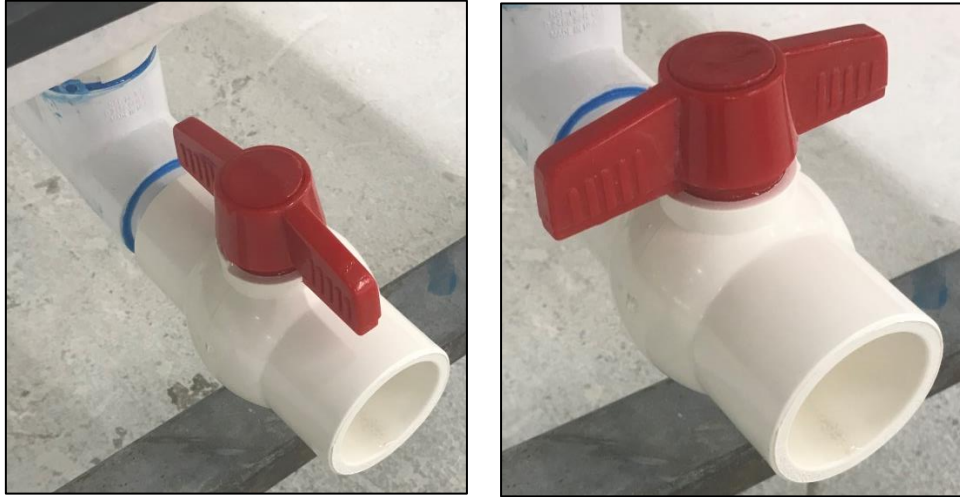

Figure 4 – Drain Valve Open    Figure 5 – Drain Valve Closed
- Open drain valve to allow the water to flow through the piping and pump system. See Figure 4.